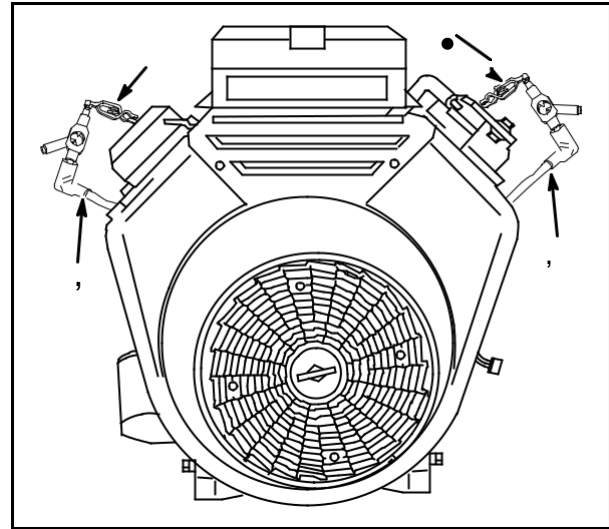

Fig. 1
With spark plugs installed, attach Ignition Tester #19368 (1) to each spark plug lead (2). Ground the other end of the tester as shown, **Fig. 1**. Spin the flywheel rapidly with engine starter. If spark jumps the tester gap the ignition system is working correctly.